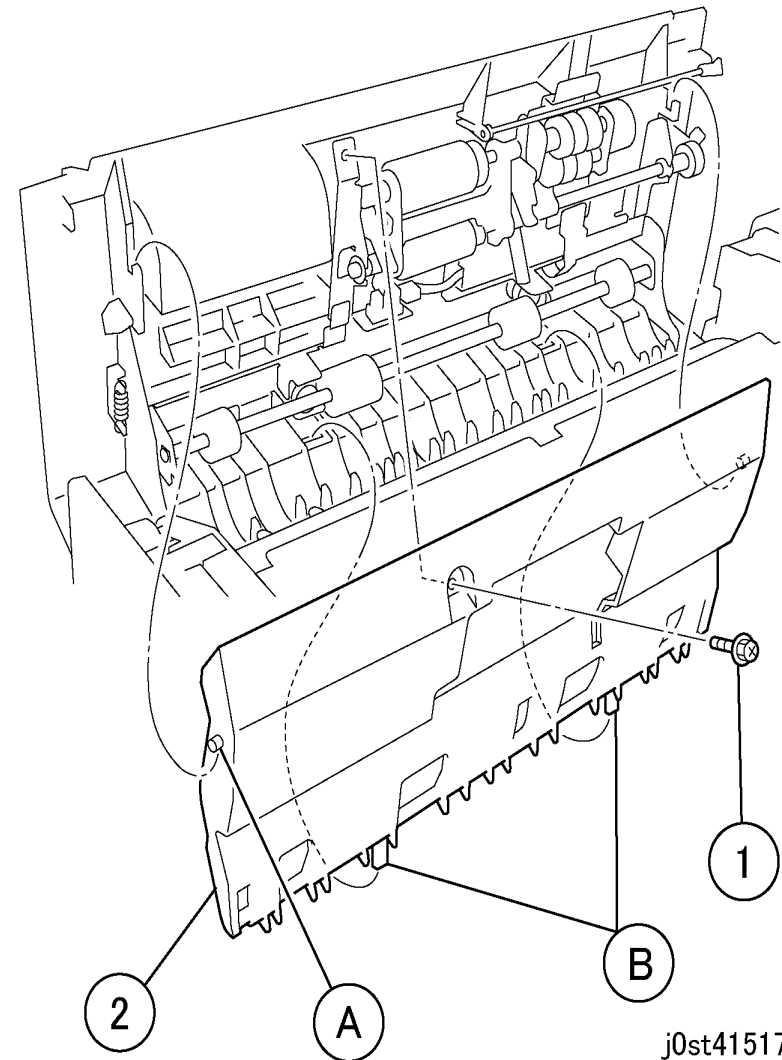

Figure 1 Removing the Feed Upper Chute
3. Remove the Feed Upper Chute. (Figure 1)